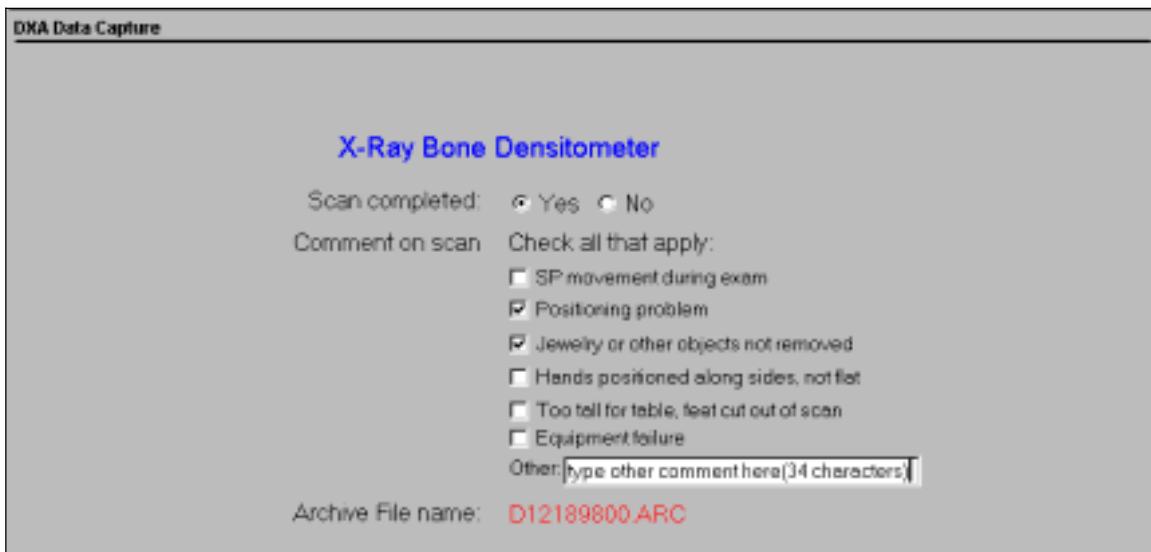

Figure 4-26. DXA data capture (comments on scan)
- 'Jewelry and other objects not removed' should be checked when you get to this screen. See Figure 4-26.
- If any of the following occurred during the scan, click one or more of the following comments (see Figure 4-26):